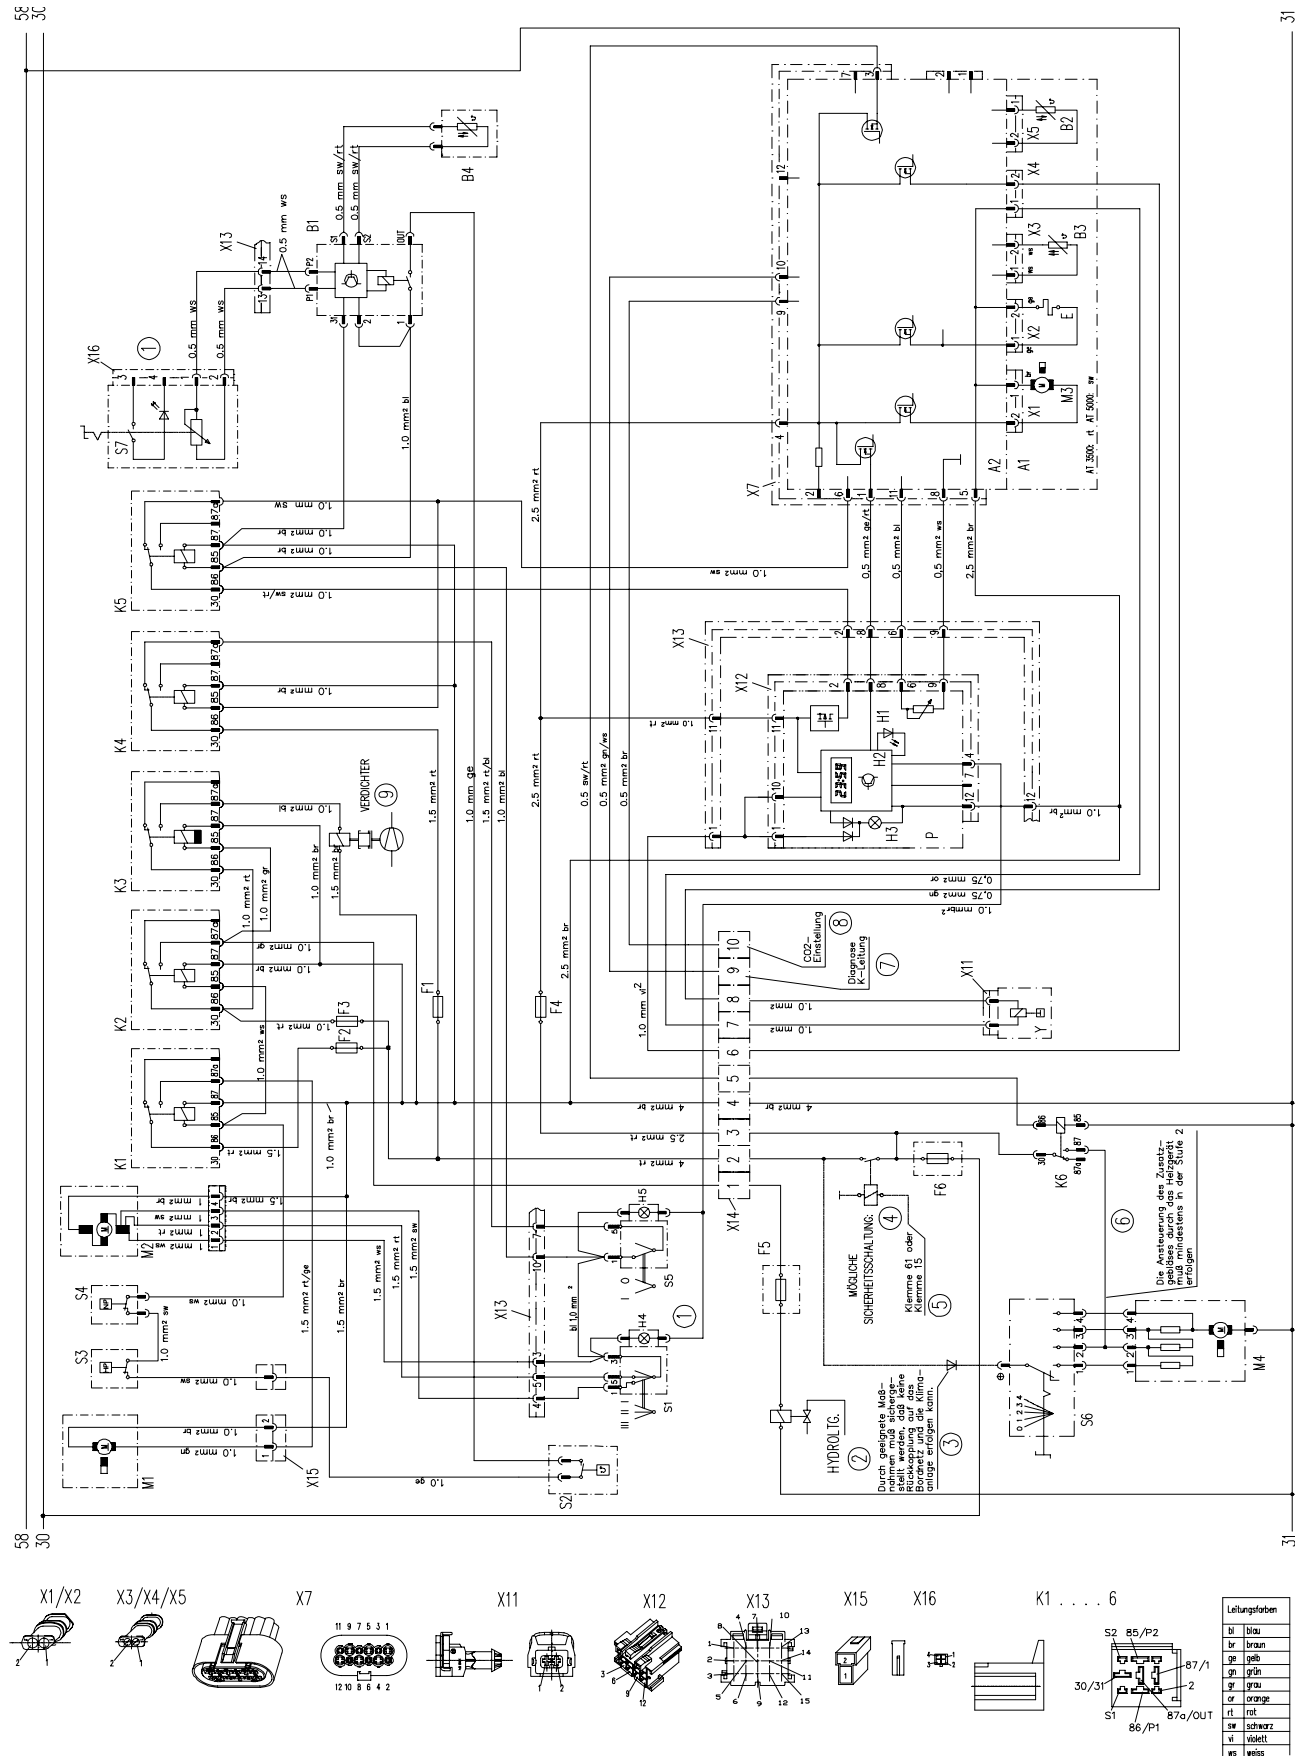

Figure 3.1.
- Corresponding to the electrical connection (see figure 3.1), the system should only be turned on or operated when the vehicle engine is running.